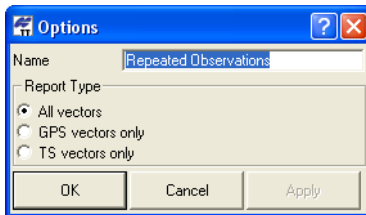

Figure 7-18. Edit Name and Select Desired Parameters for Report
- Repeated Observations – edit the name and select the report type for vectors, then click **OK** (Figure 7-18).